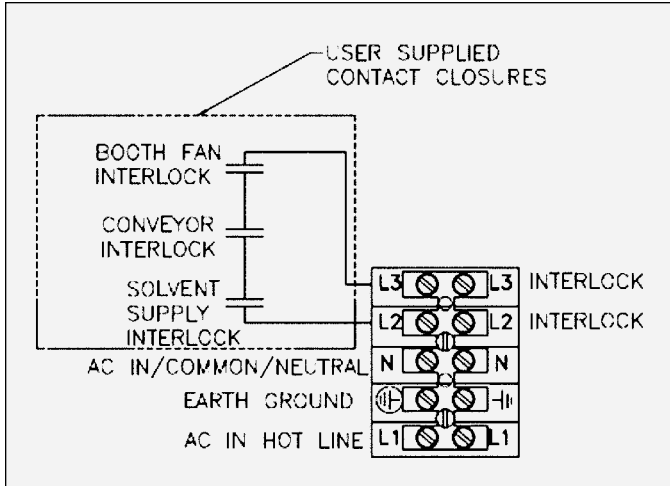

Figure 10: TB1 Interlock Wiring
4. Using a shielded cable for the interlock wiring (supplied by user), route through the interlock connector on the side of the 9060 Controller and terminate TB1-L2 and TB1-L3 as shown in Figure 10 and 12. The shielded cable must have a minimum rating of 300V and 105°C and its conductors should be 0.8mm2 (18 AWG) minimum. Secure the cable to the interlock connector as described in “I/O Connections” in the “Installation” section of this manual so that the shield of the cable is connected to the chassis of the enclosure.